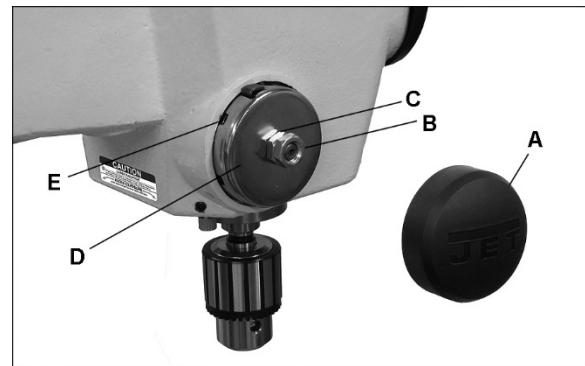

Figure 31
The quill return spring should receive SAE 20 oil once yearly. Apply the oil beneath the spring housing (D, Figure 31) using a squirt can.
2. Pull off cap (A, Figure 31).
3. Loosen jam nut (B), and loosen inner nut (C) a small amount. *Do not remove the hex nuts.* The nuts should be backed off just enough to allow the spring housing (D) to be disengaged from the pin on the head casting.
4. Slightly pull out the spring housing (D) while firmly holding it. *DO NOT allow the spring housing to turn freely in your hand, or the spring will unwind.*
5. Rotate spring housing until tab (E) on the spring retainer engages the next notch in spring housing. Rotate coil spring housing counterclockwise to increase spring tension, clockwise to decrease.
7. Tighten inner nut (C) until it makes very light contact with the spring housing. Do not overtighten the inner nut, as it may cause binding of the pinion shaft.
8. Hold the inner nut with a wrench to prevent further movement, while tightening the jam nut (B) against the inner nut.
9. Install cap (A).